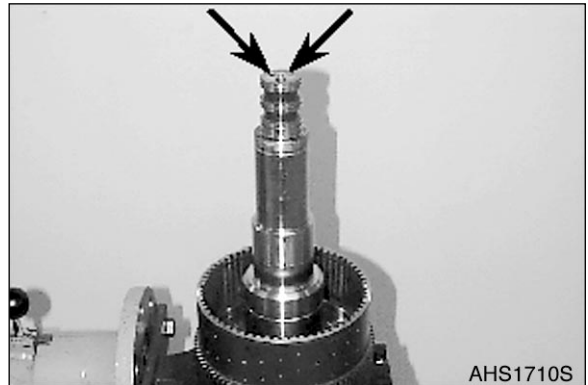

Figure 211
5. Wet both set screws (Figure 211) with Loctite #262 and install them.